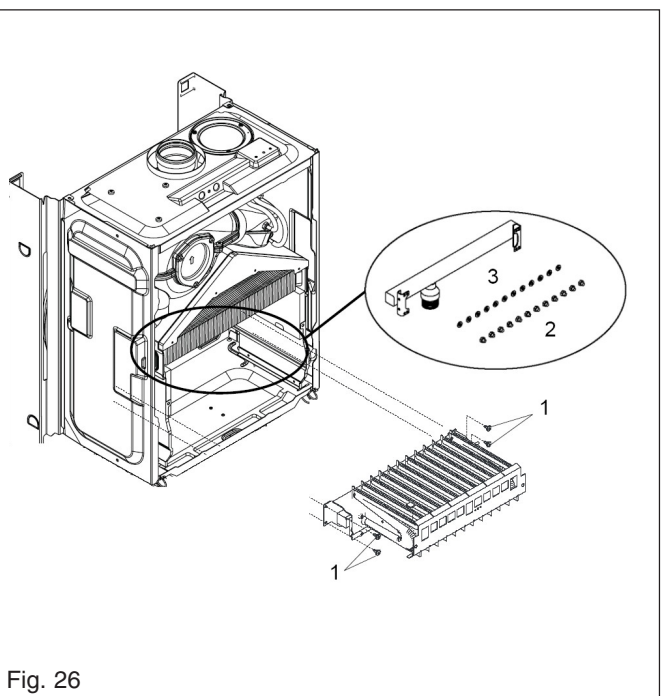

Fig. 26
**FIG. 26:** locate and remove the four screws which secure the burner in position (1), gently ease the burner out of its location. Once the burner has been removed, the electrode retaining screw can be removed. Locate the burner injectors (2) and remove (if necessary). Replace in the reverse order. **Please note**, the injector sealing washers (3) must be replaced if the injectors have been removed, ensure all seals are in good condition, taking care to ensure they are replaced correctly. Replace in the reverse order.